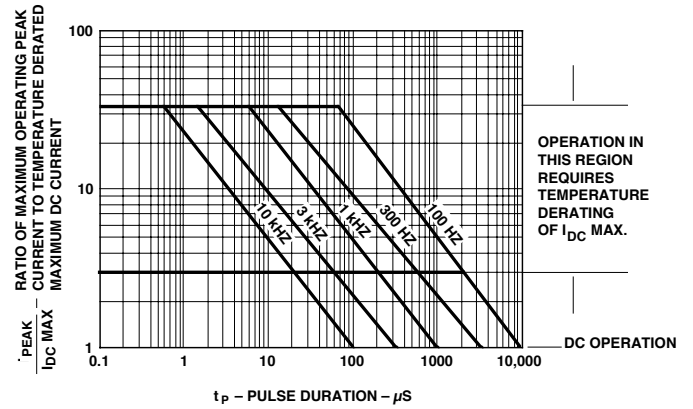

Figure 7. Maximum allowed peak current vs. pulse duration – Green.
- See Figure 7 to establish pulsed conditions.